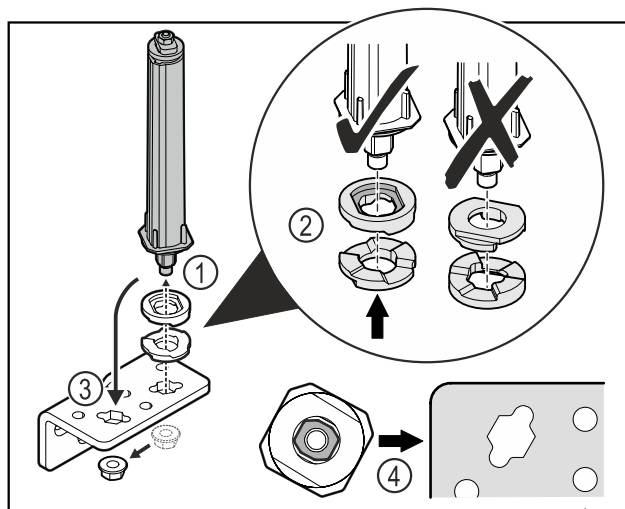

Fig. 33
- ▶ Loosen the nut and remove the door closing system Fig. 33 (1).
- ▶ Observe the correct alignment of the height adjustment washers Fig. 33 (2).
- ▶ Put the door closing system in the hinge fix in place with the nut Fig. 33 (3).
- ▶ Observe the correct alignment of the door closing system when doing so Fig. 33 (4).